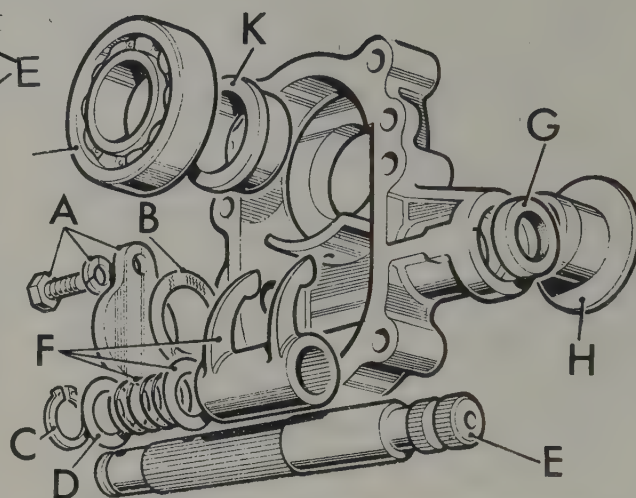

Fig. 5.22. Exploded view of clutch withdrawal mechanism
- 5 **Inspection and overhaul:** Fig. 5.22 shows the components of the clutch withdrawal unit. The parts should be examined for wear and renewed as necessary. In any event, a new oil seal for the cross shaft is a must. Likewise a new jointing washer for the cross shaft end cover.